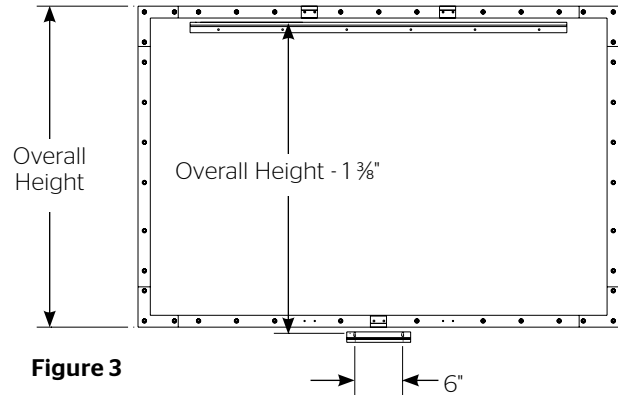

Figure 3
3. To install the small wall bracket, you must measure the overall height of the screen frame and subtract $1\frac{3}{8}$ ". Using that dimension, measure down from the top edge of the large wall bracket and mark the wall for two screw holes. The holes should be centered within the frame and 6" apart. Refer to Figure 3.